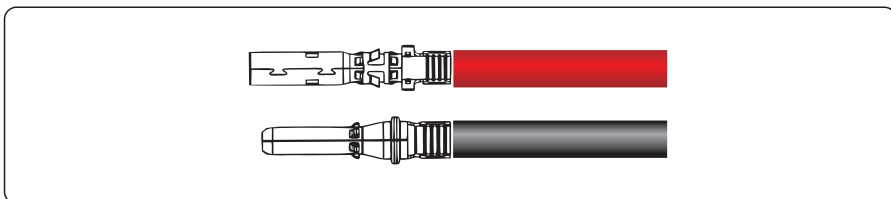

Figure 5.13 Crimping a metal connector
**Step 2** Insert the exposed areas of the positive and negative power cables into the metal terminals of the positive and negative connectors respectively and crimp them using a crimping tool, as shown in Figure 5.13.